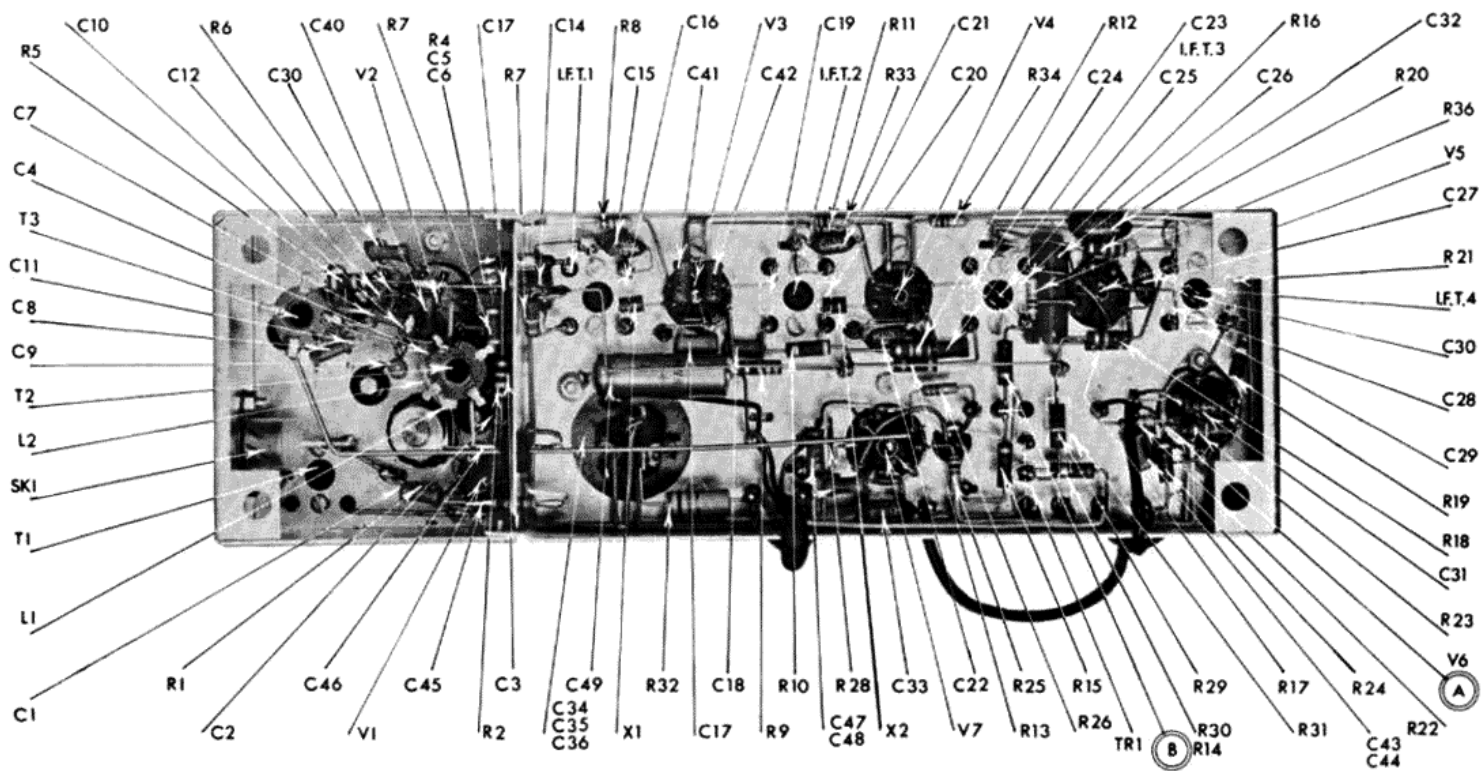

FIG. 2
- (5) Remove the baseplate by withdrawing the 4 screws (G). The underchassis layout is shown in Fig. 2.
### **IF. ALIGNMENT** (see Fig. 2)